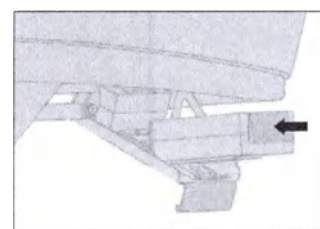

Figure 8. Attaching/removing battery to/ from battery compartment
2. Squeeze the battery release lever to disengage the battery from the mount bracket and lift. The battery will disconnect from the control box (see Figure 8).